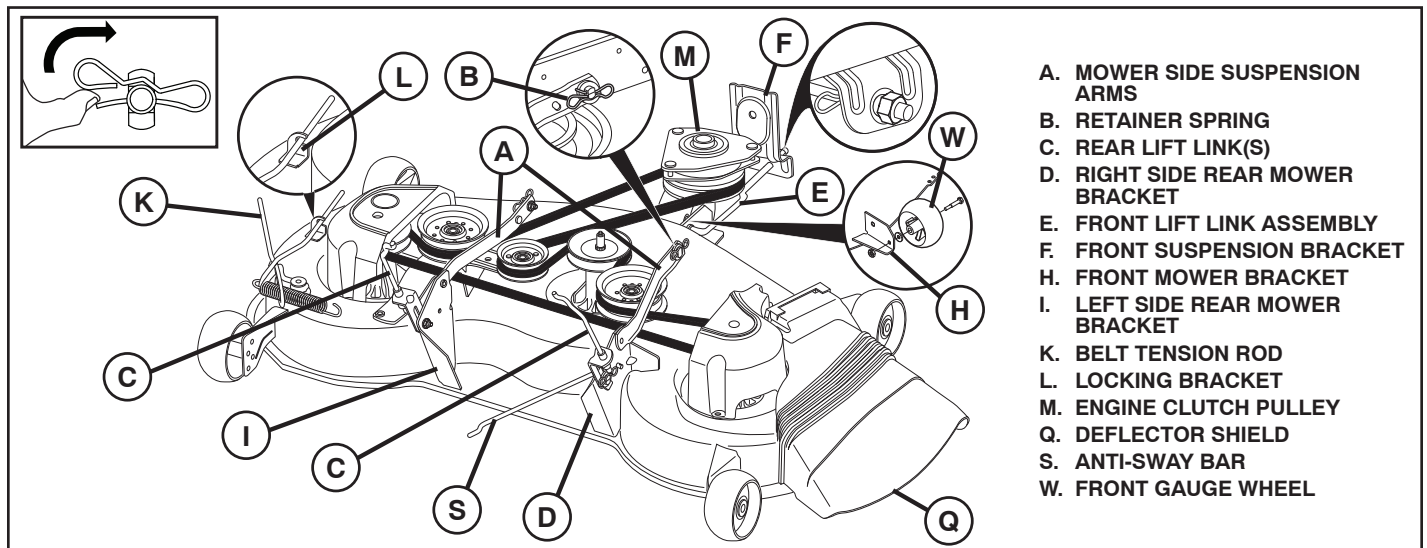

Fig. 20
TO REMOVE MOWER (See Fig. 20)
TO INSTALL MOWER (See Figs. 20 - 32)
9. INSTALL BELT ON ENGINE CLUTCH PULLEY (M) (See Fig. 20 & 32)
- Disengage belt tension rod (K) from locking bracket (L).
- Install belt onto engine clutch pulley (M).